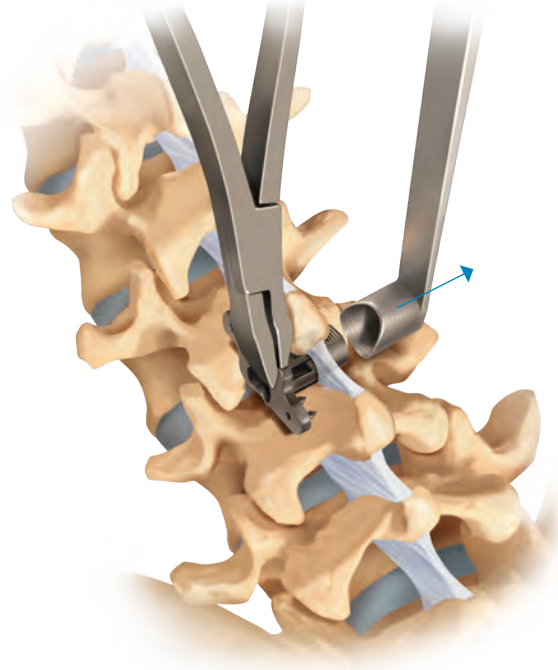

Figure 16
- Rotate the implant into its final position while simultaneously removing the sleeve from the interspinous space (**Figure 16**).